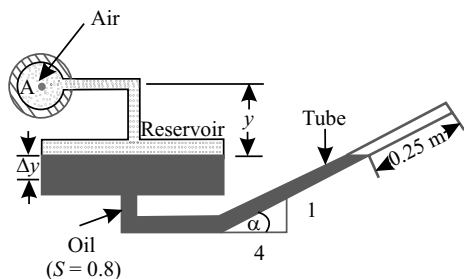

Fig. 2.50
17. Calculate the pressure at point A in Fig. 2.50. The slope of the tube is 4 horizontal to 1 vertical. The diameters of reservoir and tube are 50 mm and 5 mm respectively. The fluid in the pipe is air and that in the manometer is kerosene (sp. gr. = 0.8). [Ans. -0.494 kN/m^2]